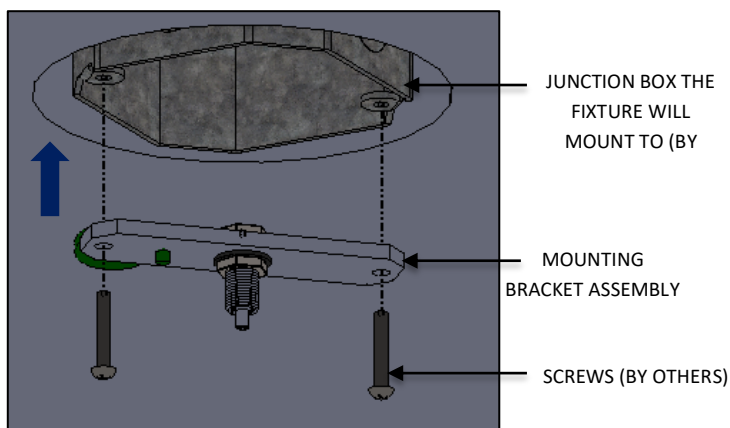

FIG. 26 – MOUNTING BRACKET ASSEMBLY
15. Assemble the MOUNTING BRACKET ASSEMBLY to the JUNCTION BOX the fixture will mount to (by others) with screws (by others) as shown in FIG. 26 below.